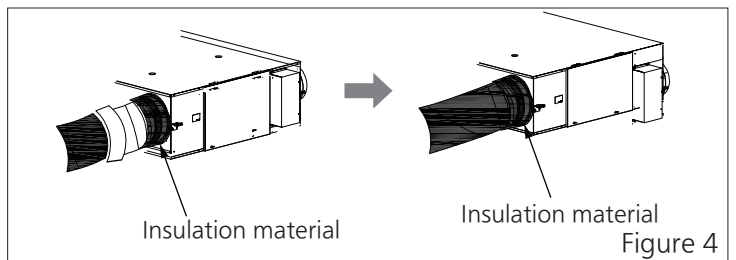

Figure 4
- ④ Insulate the ducts (2 or 4) directly exposed to outside. (Figure 4)
- ⑤Connect wires at the corresponding positions. (Figure 4 and Figure 5)
- (1) It is recommended to use the wire (soft wire) with rated voltage 300 V/500 V to link power supply cord with switch as stipulated in 60227 IEC 53.
- (2) Use 3 core wire containing green/yellow wire, each core wire should have cross section area of 2.5 mm². (Perform wiring according to the local laws and regulations)
- (3) Use 2 core wire to link the terminal SW1, SW2 with switch, additionally, please use 4 core wire to link the other terminals with switch, each core wire should have cross section area of 2.5 mm². (Perform wiring according to the local laws and regulations)
⑥ Fasten the ground wire (yellow and green wire) of the power cord to the earth terminal. (Figure 4 or Figure 5)